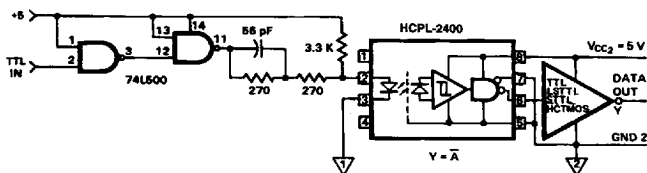

Figure 13. Recommended 20 MBd HCPL-2400/30 Interface Circuit.
- The typical data shown is indicative of what can be expected using the application circuit in Figure 13.
- This specification simulates the worst case operating conditions of the HCPL-2400 over the recommended operating temperature and  $V_{CC}$  range with the suggested application circuit of Figure 13.
A recommended LED drive circuit is shown in Figure 13. This circuit utilizes several techniques to minimize the total pulse-width distortion at the output of the optocoupler. By using two inverting TTL gates connected in series, the inherent pulse-width distortion of each gate cancels the distortion of the other gate. For best results, the two series-connected gates should be from the same package.
The circuit in Figure 13 also uses techniques known as prebias and peaking to enhance the performance of the optocoupler LED. Prebias is a small forward voltage applied to the LED when the LED is off. This small prebias voltage partially charges the junction capacitance of the LED, allowing the LED to turn on more quickly. The speed of the LED is further increased by applying